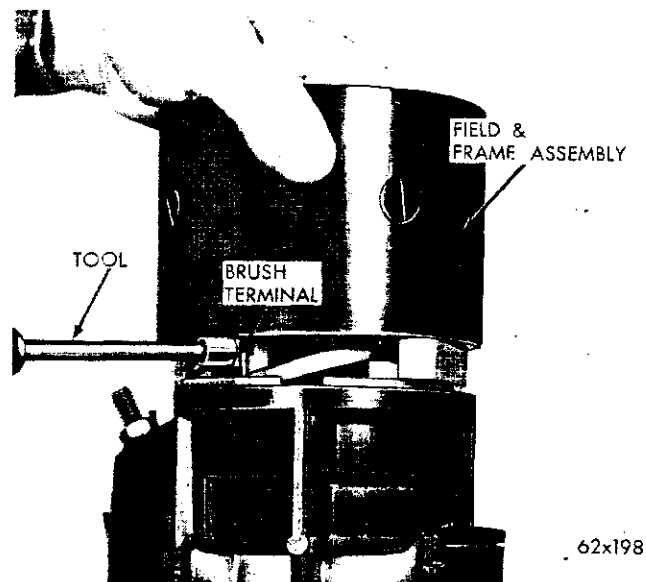

Fig. 20—Removing the Brush Terminal Screw
NOTE: The wire of the shunt field coil is soldered to the brush terminal. One pair of brushes are connected to this terminal. The other pair of brushes is attached to the series field coils by means of a terminal screw. Carefully pull the frame and field assembly up just enough to expose the terminal screw and the solder connection of the shunt field at the brush terminal. Place two wood blocks between the starter frame and starter gear housing (Fig. 20) to facilitate removal of the terminal screw and the unsoldering of the shunt field wire at the brush terminal.
(4) Support the brush terminal by placing a finger behind the terminal and remove the terminal screw (Fig. 20).